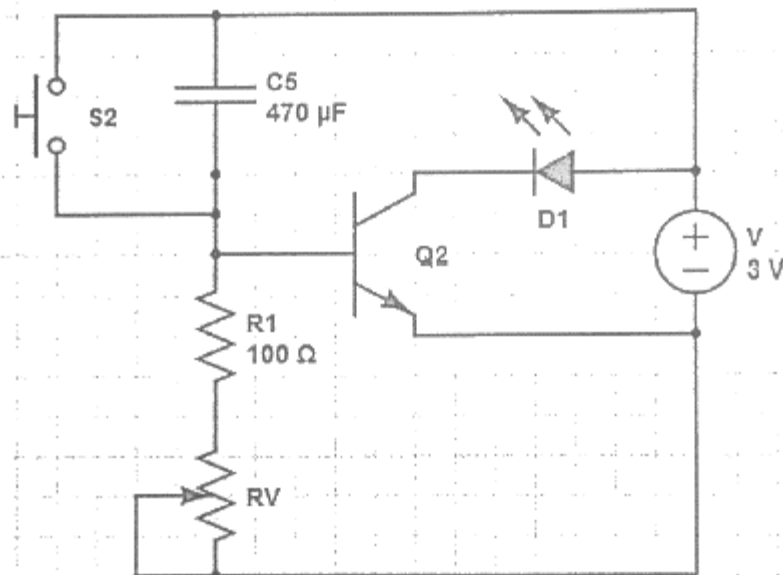

Figure 2
1. Build the circuit in Figure 2 below